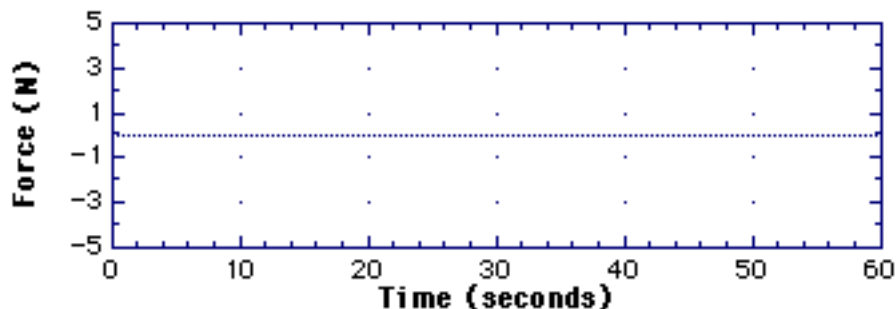

Figure 1. Force Score graph format for Activity 1
- **Open...** (under the **File** menu) the file **FORCE SCORE AND SEVEN...** in the **Lab 2** folder. A graph like that shown in Figure 1 should appear on the screen: